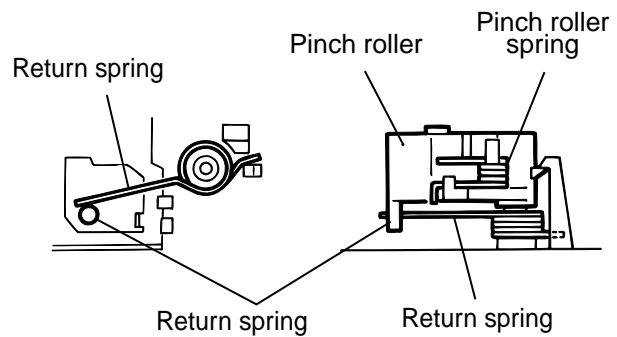

Fig.3
2. When reassembling the pinch roller, refer to fig. 3 to hook up the spring.